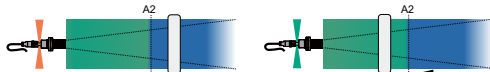

Figure 17 - Single trigger on approaching object
- The output signal switches when the object approach distance (S) is smaller than the adjustment distance (A2). The operating principle is shown in Figure 17. A user-wide setting must be implemented for operation:  $A2 = S, A1 \rightarrow \infty$ .